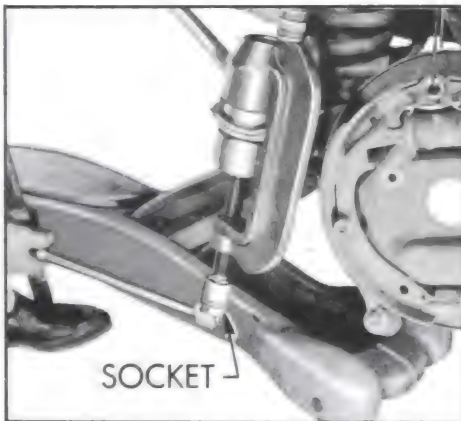

Figure 7-16—Installing Lower Ball Joint
2. With a suitable socket and handle force the ball joint into the lower control arm until it is fully seated. See Figure 7-16.